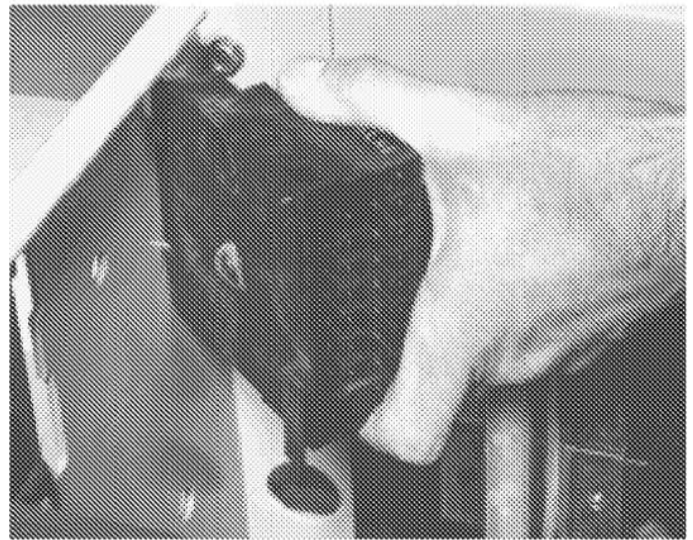

Figure 8. Mounting slots of the Secondary Disconnect mounted against the spacers on the Substructure.
3. Place the spring washer on the post on the Disconnect block, as shown in Figure 8. Place the two mounting slots on the rear of the Disconnect against the two spacers next to the wire exit hole, then drop the mounting feet on the front of the Disconnect into the opening created by moving the mounting slide forward.
3. Locate the Secondary Disconnect block inside the Sub-structure with the wires routed through the wire exit slot. Place the spring washer on the post on the Secondary Disconnect block as shown in Figure 8. Place the two mounting slots on the rear of the Disconnect against the two bushings next to the wire-exit hole, then drop the mounting feet on the front of the Disconnect into the opening created by moving the mounting slide forward.